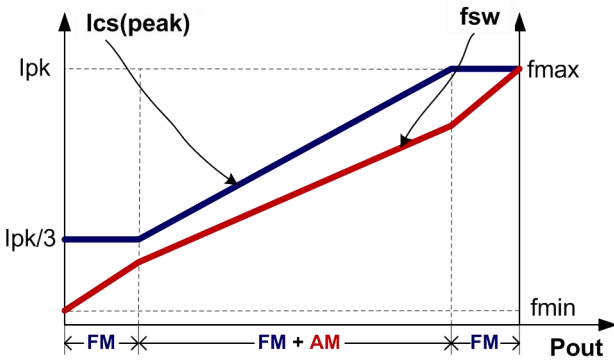

Fig.4
To meet the tight requirement of averaged system efficiency and no load power consumption, a hybrid of frequency modulation (FM) and amplitude modulation (AM) is adopted in 6215 which is shown in the Fig 4.